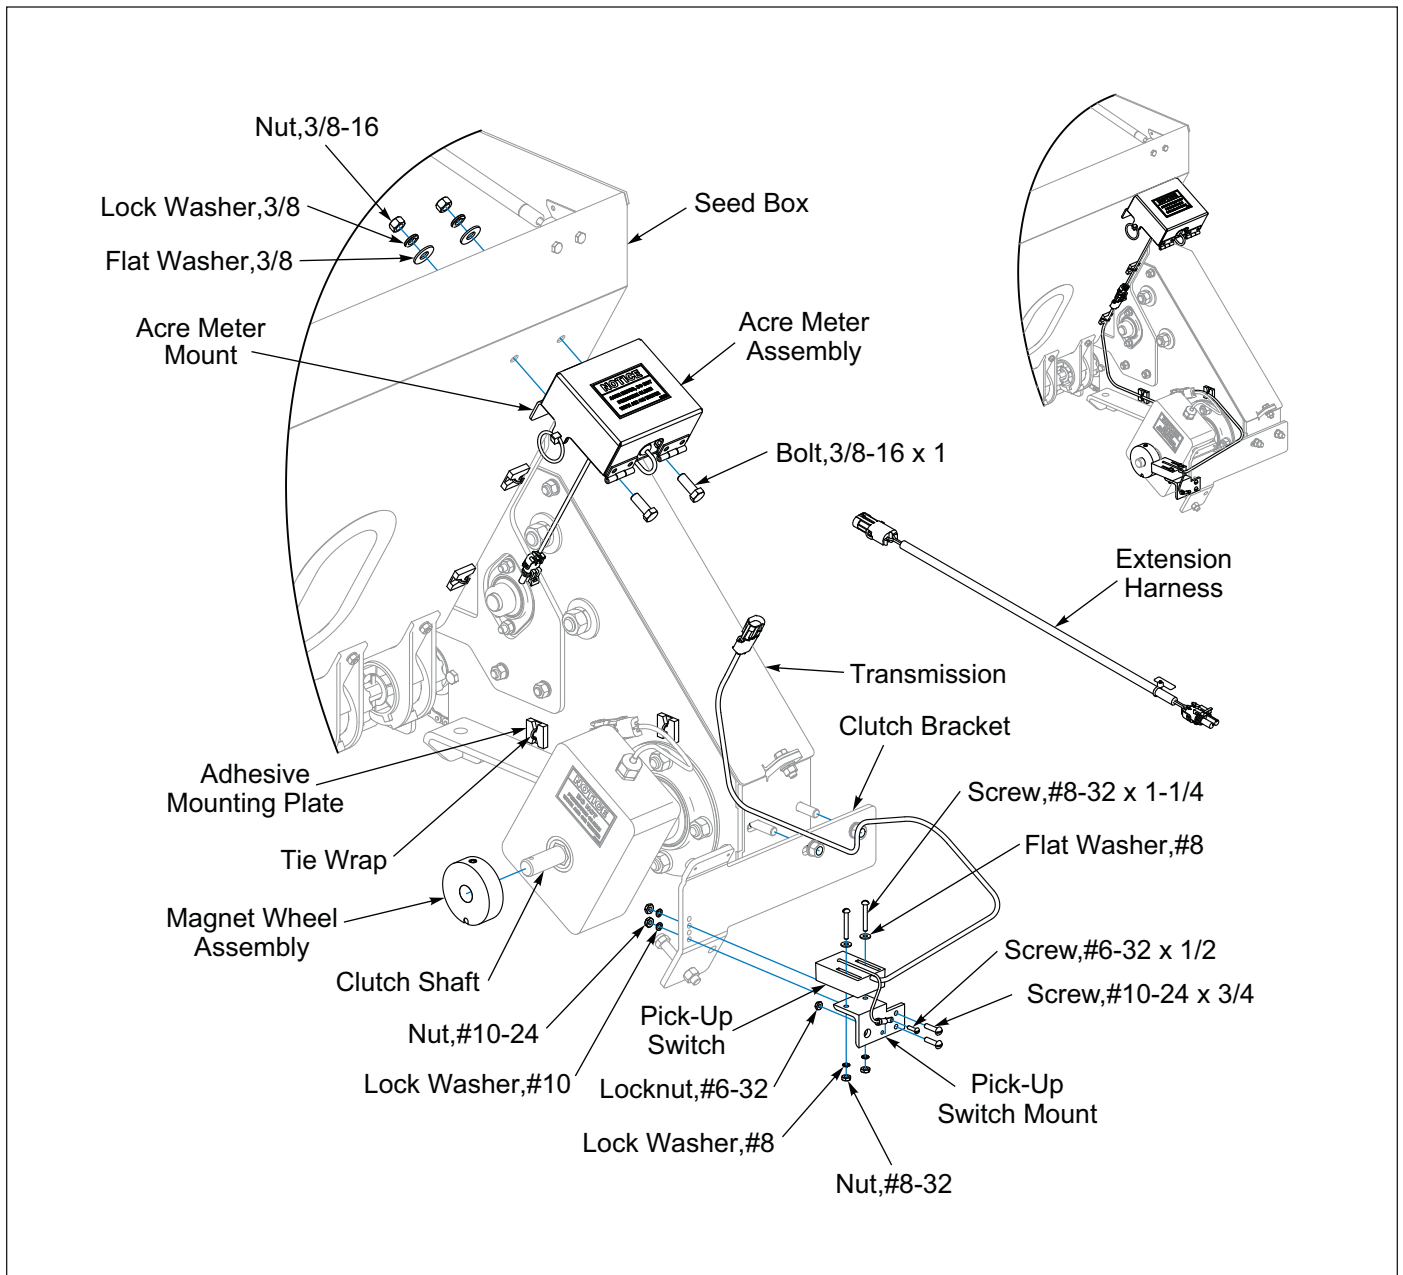

Figure 2-40: Electronic Acre Meter Kit
2. Attach the Acre Meter Bracket to the Seed Box with 3/8-16 x 1 Bolts, Lock Washers, and Nuts. **See Figure 2-40.**